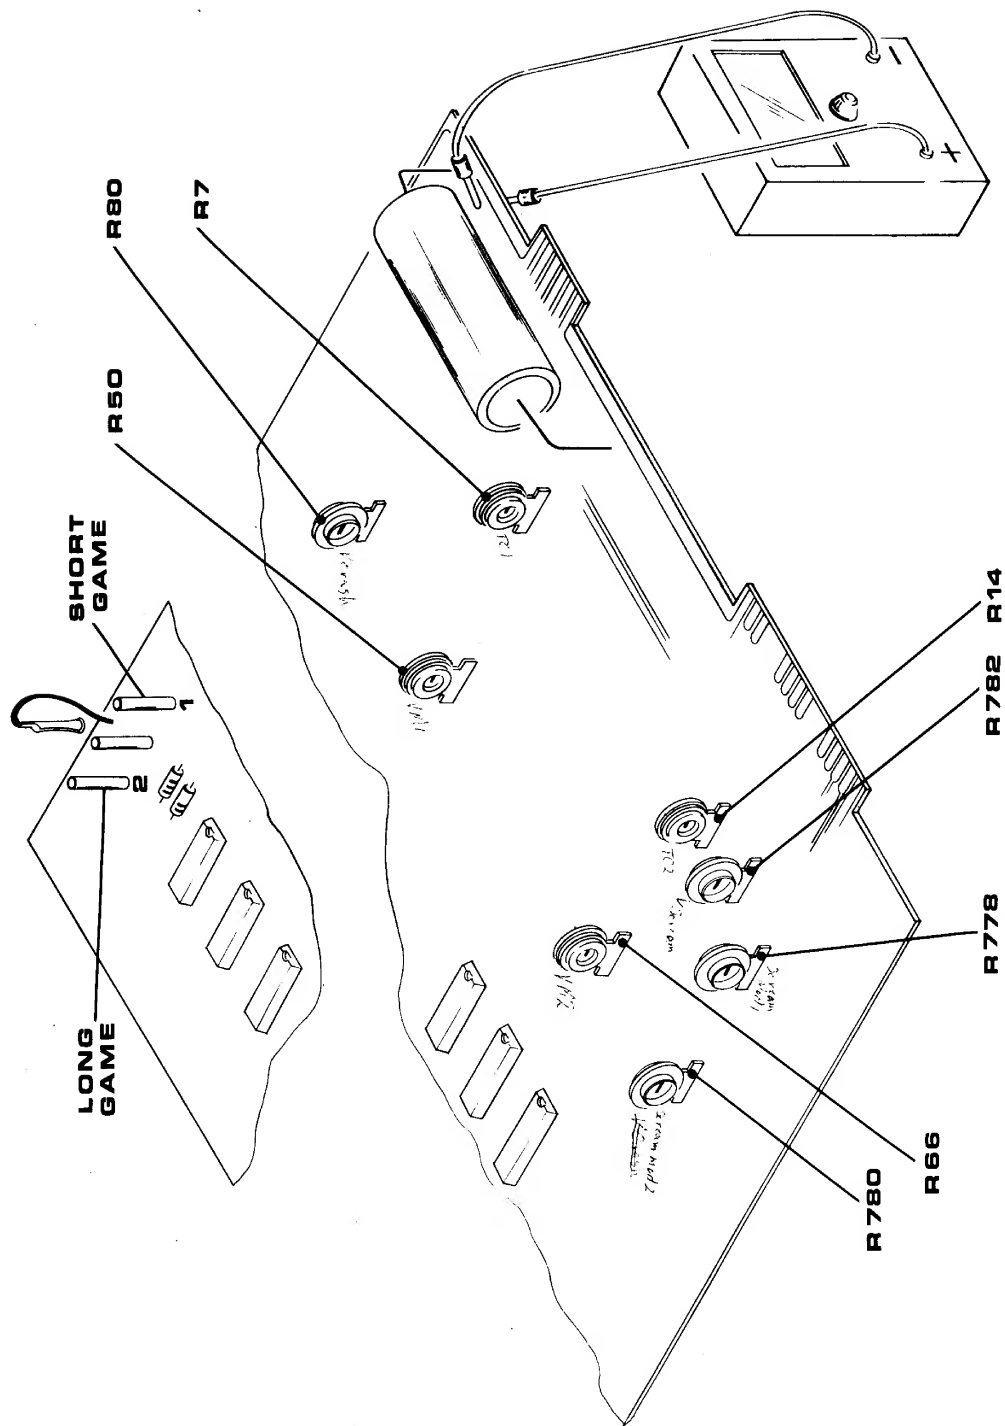

FIG 6
1. Contact voltmeter leads to Logic PCB as indicated in Fig. 6.
VOLUME ADJUSTMENTS (Refer to fig. 6)
TONE ADJUSTMENTS (Refer to Fig. 6)
GAME TIME ADJUSTMENTS (Refer to Fig. 6)